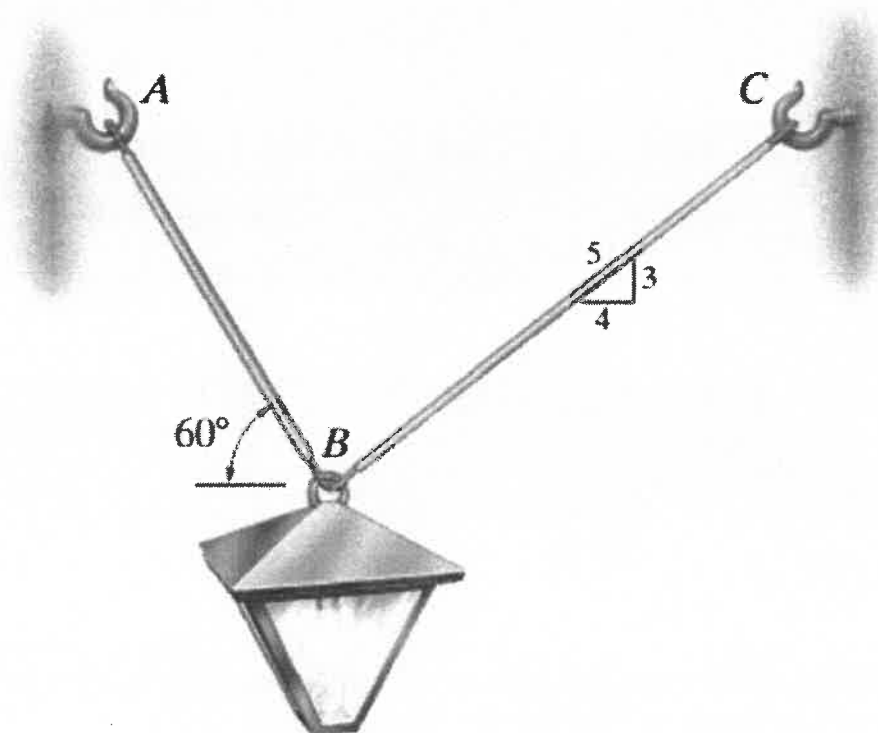

Figure 8: Hanging Lamp
*Refer Below - Figure8 : Hanging Lamp .*